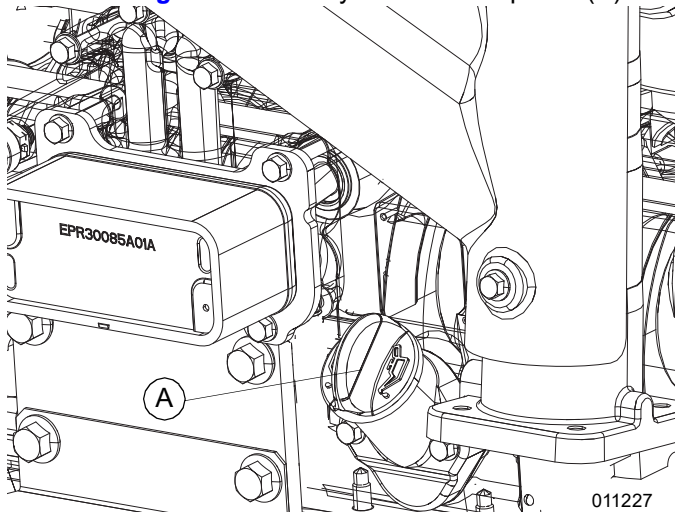

Figure 5-7. Oil Dipstick Location
6. See Figure 5-7. Slowly remove oil dipstick (A).